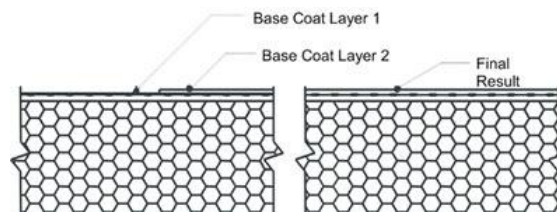

Figure 20
- a. The base coat shall be applied such that the resulting overall minimum base coat thickness is sufficient to **fully embed** the reinforcing mesh. The recommended method is to apply the base coat in two (2) passes.
- 3) Allow the base coat mixture to take up until firm to the touch. Trowel a second tight coat of the base coat mixture over the first coat to **fully cover** the reinforcing mesh - Figure 20. The result should be such that the reinforcing mesh is approximately centered within the base coat thickness. Do not allow the first pass to completely dry prior to the second pass application or an excessive amount of base coat mixture will be necessary to fully coat the wall surface.